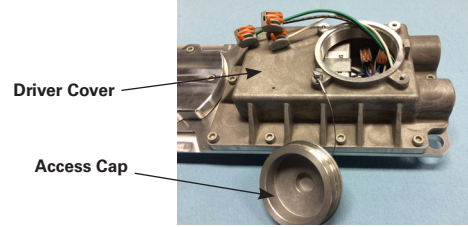
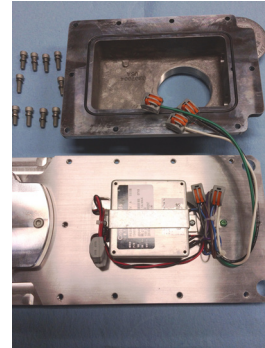

Figure 8
Figure 13
- Open the threaded wiring access cap (see Figure 8) and allow the cap to hang by the lanyard. All components in the fixture are pre-wired so only input power needs to be connected in the fixture to the lead wires (or terminals) per the wiring diagrams (see Figures 10 and 11) using methods that comply with all applicable codes. Terminate the equipment grounding conductor (green) first, the common (white) next, and finally, the line voltage (black) last. For DC voltage applications, connect the positive (+) lead to the white wire and the negative (-) lead to the black wire. Tighten all electrical connections. Note - Standard openings are 3/4" NPT.
3. Driver replacement requires removal of the driver cover (see Figure 13).
4. Open the threaded wiring access cap (see Figure 8) and allow the cap to hang by the lanyard.
7. Remove the ten (10) socket head cap screws and lock washers from the driver cover using a 5mm hex wrench or bit.
10. Disconnect the input and output leads of the old driver (see Figure 13).
11. Remove the two (2) screws that secure the driver; remove the old driver.
14. Re-install the new driver into the luminaire, ensuring that the driver is in direct contact with the luminaire housing and no wires are being pinched between the driver and the housing. Secure with two (2) screws and tighten to 5 in.-lbs. (0.6 N-m).
15. Ensure that output wires to LED boards are tied neatly next to the driver and the input and dimming wire leads are tied neatly together (see Figure 13).
17. Re-install the ten (10) socket head cap screws and lock washers from the driver cover using a 5mm hex wrench or bit.